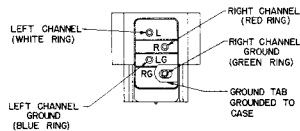

FIGURE 1
See Figure 1: Right "hot" lead (usually red) to "R," right ground (usually green) to "RG," left "hot" lead (usually white) to "L," left ground (usually blue) to "LG." If metal head is causing ground loop hum, remove the ground tab. The metallic cartridge shield is disconnected from the right channel ground by removal of the ground tab.
2. Connect leads to cartridge (see Figure 1).
2. Enfitez les cosses sur la cellule (voir fig. 1).